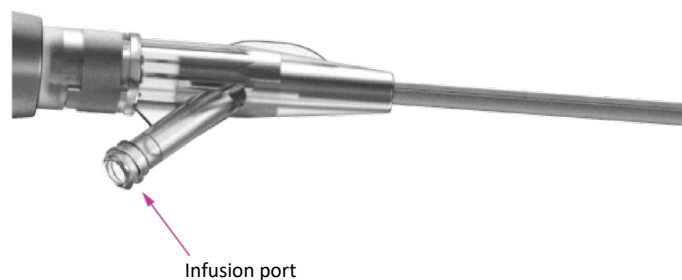

Figure 3: Connect Fluid Tubing
- 5.3.4. Connect tubing from the source of the fluid to the Luerlock connector port (infusion port) on the side of the Hystero-V Hysteroscope. See Figure 3.